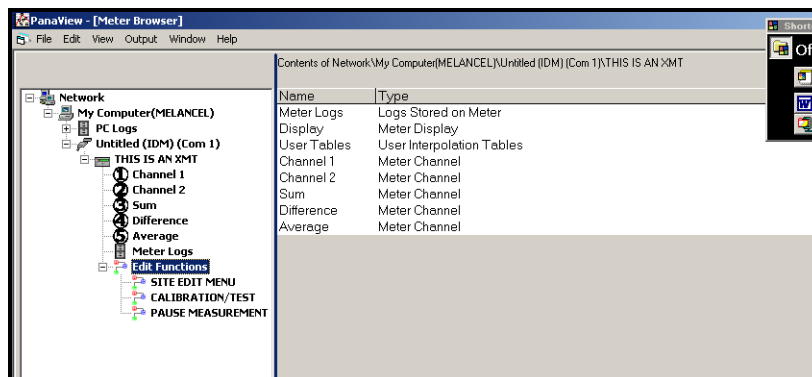

Figure 10: Menu in the *Edit Functions* Option
4. Expand the *Edit Functions* option. The window now appears similar to that shown in Figure 10.